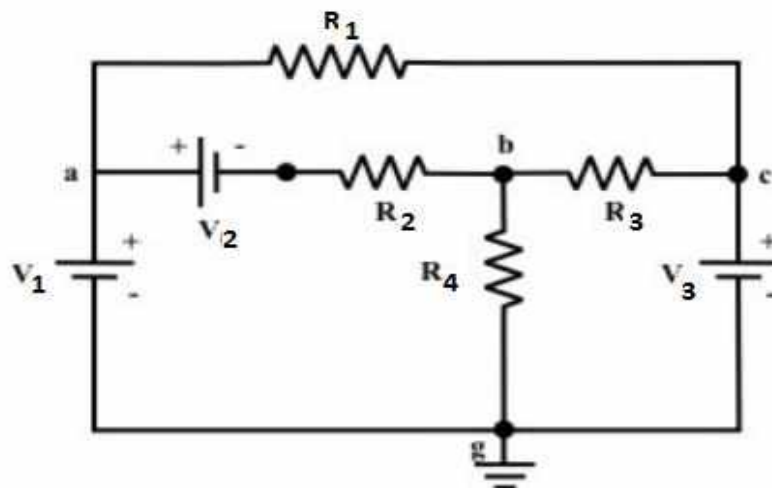

Fig. 1.7.1 Basic electrical circuit
- **Node:** A node in an electric circuit is a point where two or more components are connected together. This point is usually marked with a dark circle or dot. The circuit in fig. 1.7.1 has nodes a, b, c, and g. Generally, a point, or a node in a circuit specifies a certain voltage level with respect to a reference point or node.
- **Branch:** A branch is a conducting path between two nodes in a circuit containing the electric elements. These elements could be sources, resistances, or other elements. Fig. 1.7.1 shows that the circuit has six branches: three resistive branches (a-c, b-c, and b-g) and three branches containing voltage and current sources (a-, a-, and c-g).
- **Loop:** A loop is any closed path in an electric circuit i.e., a closed path or loop in a circuit is a contiguous sequence of branches whose starting and end points for tracing the path are, in effect, the same node and touches no other node more than once. Fig. 1.7.1 shows three loops or closed paths namely, a-b-g-a; b-c-g-b; and a-c-b-a. Further, it may be noted that the outside closed paths a-c-g-a and a-b-c-g-a also form two loops.
- **Mesh:** a mesh is a special case of loop that does not have any other loops within it or in its interior. Fig.1.7.1 indicates that the first three loops (a-b-g-a; b-c-g-b; and a-c-b-a) just identified are also ‘meshes’ but other two loops (a-c-g-a and a-b-c-g-a) with the introduction of Kirchhoff's laws, various types of electric circuits can be analyzed.